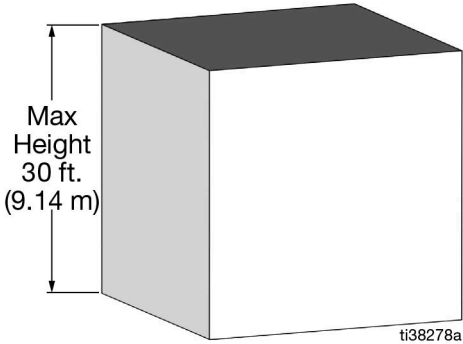
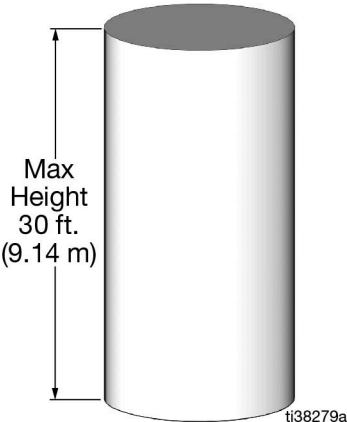

FIG. 14
FIG. 15
- Tank walls must be uniformly vertical from empty level to full (FIG. 14 and FIG. 15).